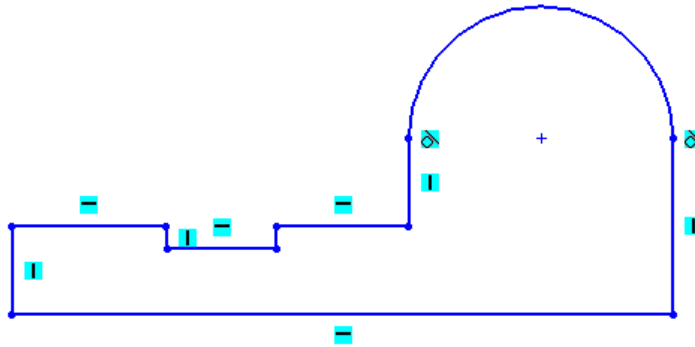

Figure 1-58 Sketch after drawing the outer loop
- Draw the outer loop of the sketch using the **Line** tool, refer to Figure 1-58.
20. Choose the **Zoom to Fit** button to fit the sketch on the screen. This completes the outer loop of the sketch. The sketch after drawing the outer loop is shown in Figure 1-58.